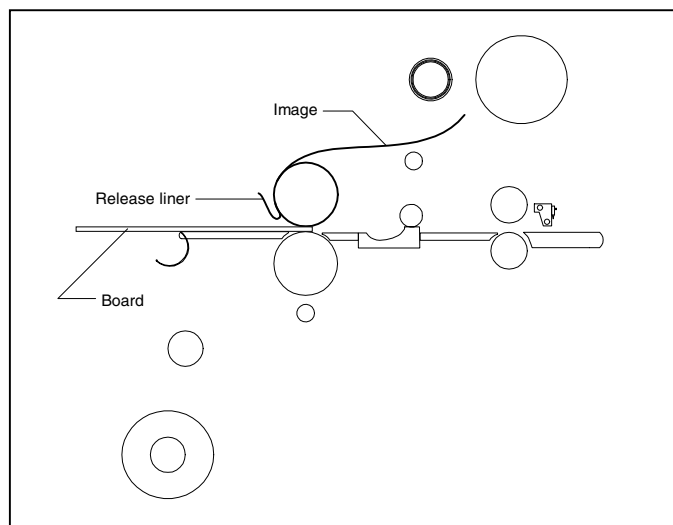

Fig. 40
TIPS FOR MOUNTING A DECAL (Figure 40)
1. Load the laminator as illustrated in Figure 40.